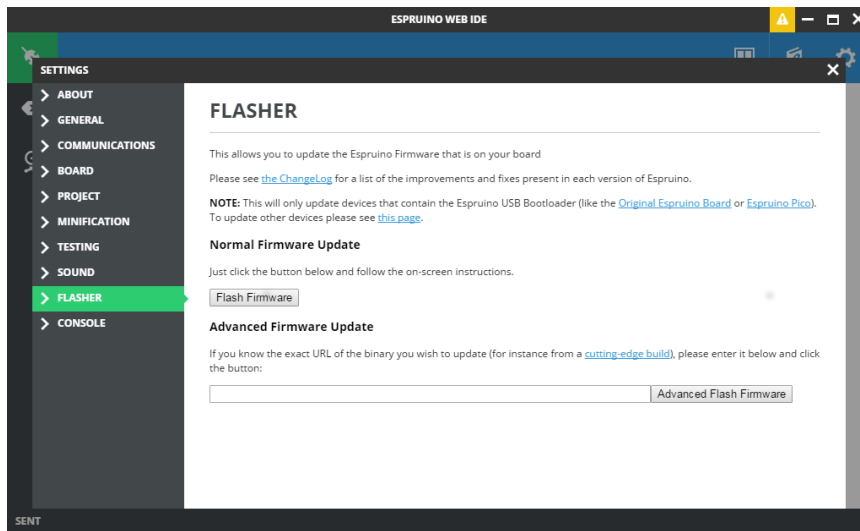

Figure 3-9 The Web IDE's menu for updating the firmware on an Espruino device
1. Click the yellow warning triangle (Figure 3-9). You can also get to the window by clicking the settings icon in the top right, followed by Flasher on the left of the Settings menu that pops up.